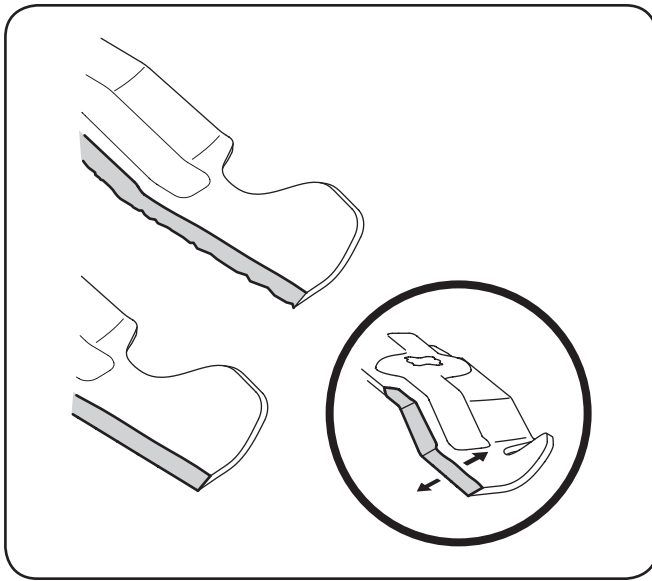

Figure 7-7
4. To properly sharpen the cutting blades, remove equal amounts of metal from both ends of the blades along the cutting edges, parallel to the trailing edge, at a 25°- to 30° angle. Always grind each cutting blade edge equally to maintain proper blade balance. See Fig. 7-7.